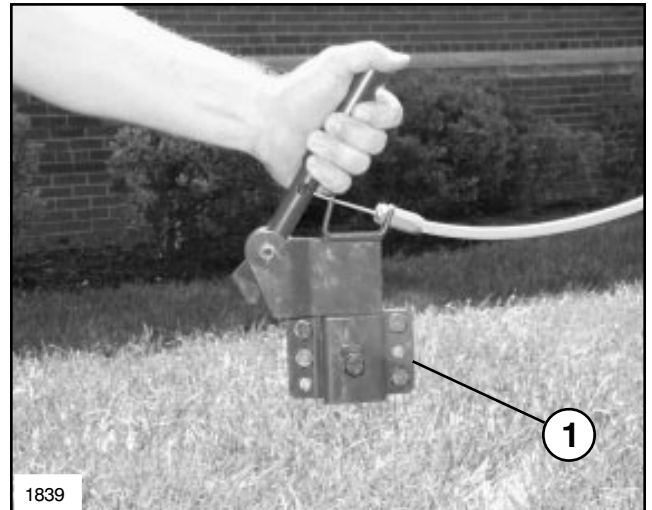

FIG. 8
16. REMOTE CONTROL: Allows Remote Control location of main On/Off valve. The Remote can be mounted on the Towing Tractor. (See FIG. 8)